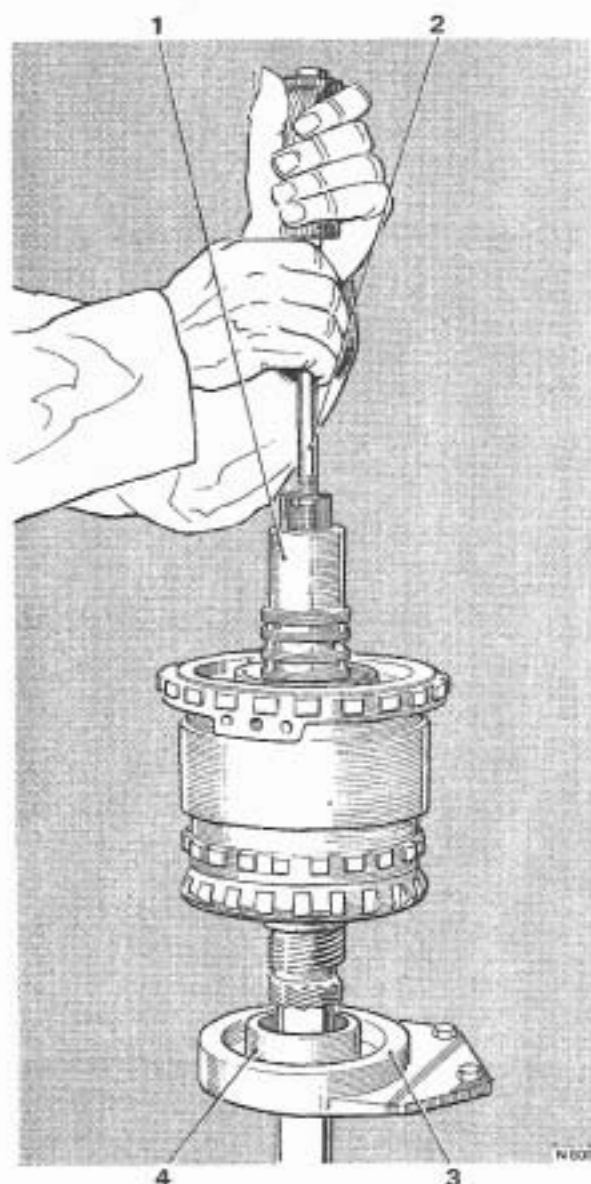

FIG. T261 FITTING THE GEAR UNIT INTO THE HOLDING FIXTURE
17. Using adapter RH 7960 (J-21364) in the rear unit holding fixture RH 7959 (J-6116), fit the gear unit assembly into the holding fixture with the mainshaft pointing upward (see Fig. T261); remove the tool RH 7962 (J-21795).